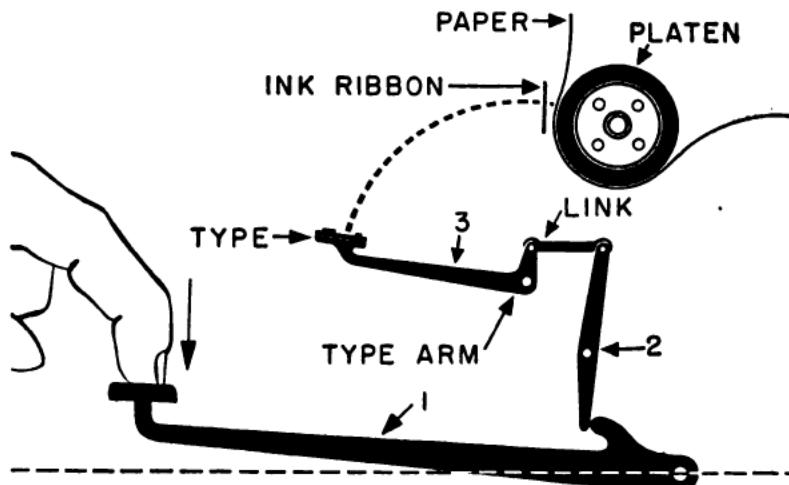

Figure 104.
4. In figure 104 you see the lever system for the type bars of a typewriter. Arm 1 is a _____-class lever. Arm 2 is a _____-class lever. Arm 3 is a _____-class lever.